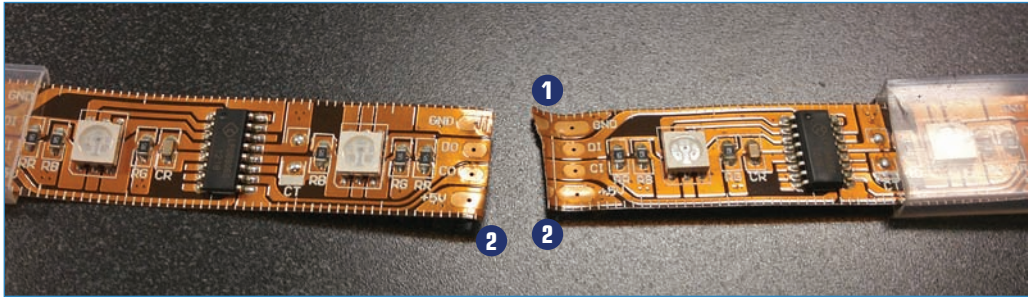

FIGURE 3.24 Safely cut the light strip along this line flanked by solder pads.
You buy the strip in five-meter reels but you can cut it yourself into lengths as small as 2.5". Does it sound scary to potentially damage a light strip that costs \$30 a meter? It should. However, the manufacturers thoughtfully created the strip so that it can be cut along certain cutlines. The safe cutting line is flanked by solder pads, as shown in Figure 3.24.
1. To cut the strip, find the nearest cutline—you can't miss them, they're every 2.5 inches! Simply cut down the line with a sturdy pair of scissors. It doesn't have to be a surgical cut; the shoddy job I did in Figure 3.24 worked perfectly fine.